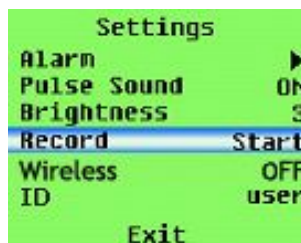

Figure 9.
a. On the main menu interface, press the "up button" or "down button", move the menu choice bar to "Record", then press the "menu button" again to enter the dialog box of figure 9: if it is in recording state, the "Stop" is displayed on menu; if it is not in recording state, the "Start" is displayed on menu.